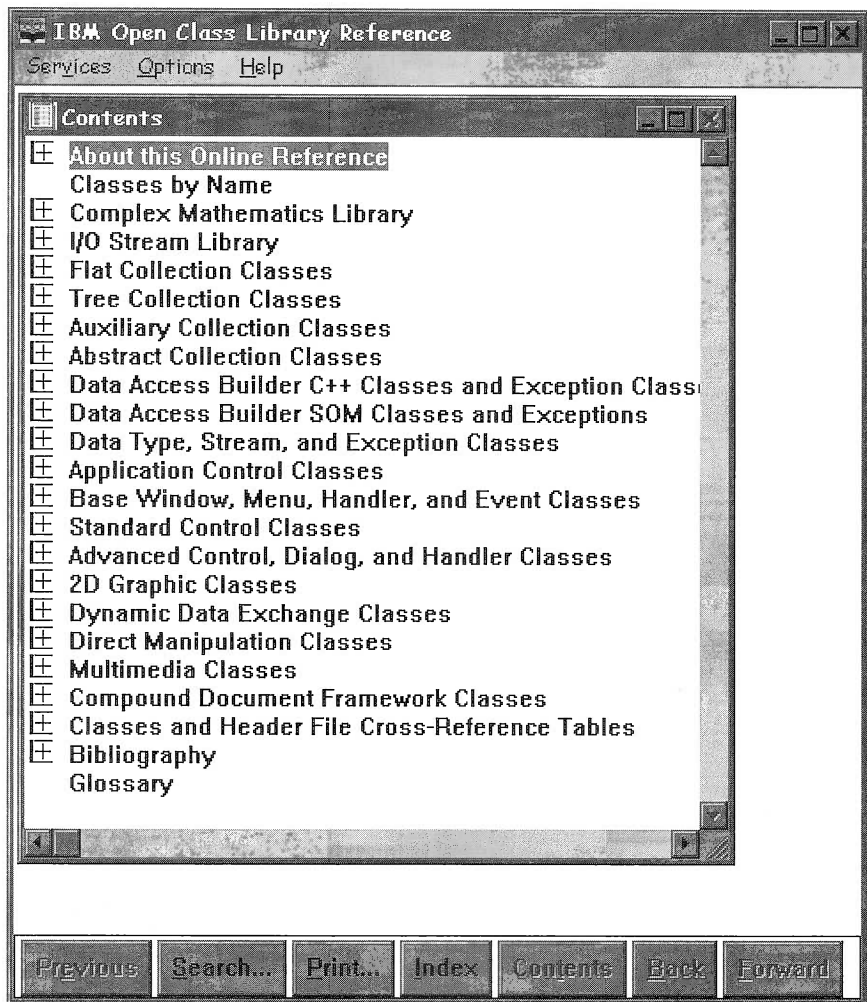

Figure 8: Open Class Library Reference
- ☐ Select the **View** push button, which display like Figure 8.